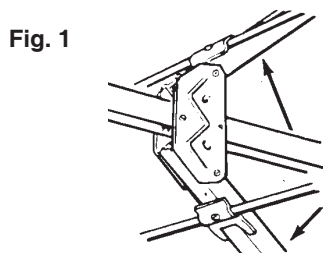

Fig. 1
STEP 1. Remove antenna from carton and unfold elements on reflector booms until they lock into place. See Figure 1.
STEP 2. Unfold reflector booms until they lock into place. See Figure 1.